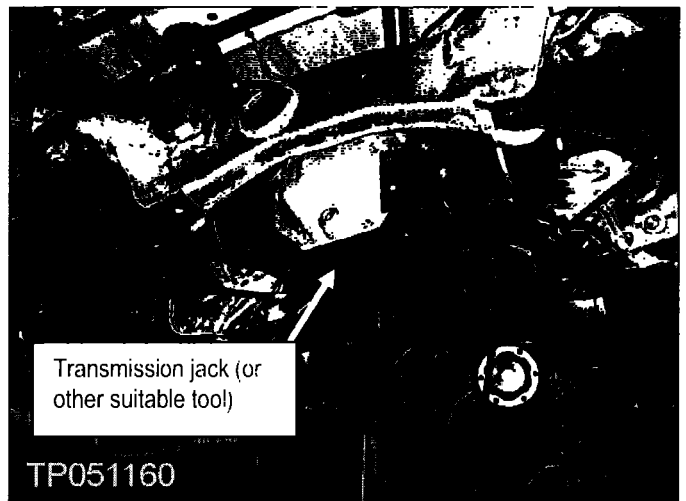

Figure 31
25. Place a transmission jack (or other suitable tool) under the rear differential (see Figure 31).